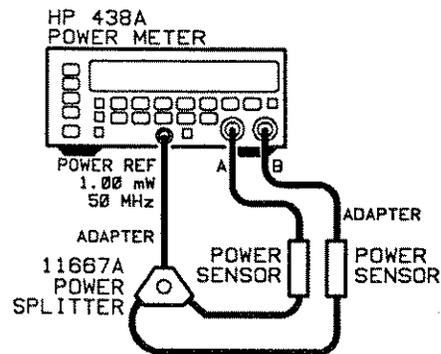

Figure 3-4. Front Panel Checks Setup (2)
12. Remove sensor from POWER REF OSC. Connect the equipment as shown in FIGURE 3-4.